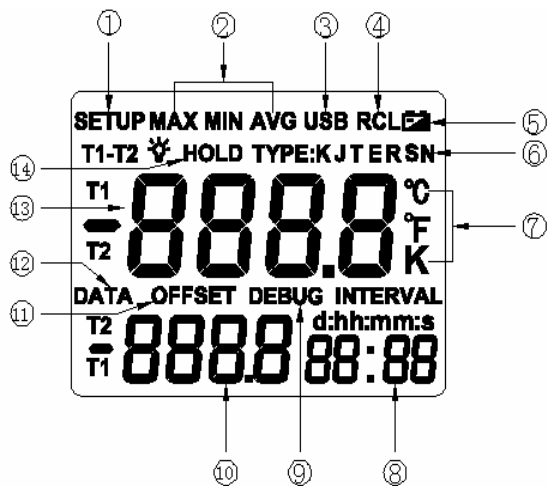

Figure 2. Display Elements
- Figure 2 and Table 4 describe the display.